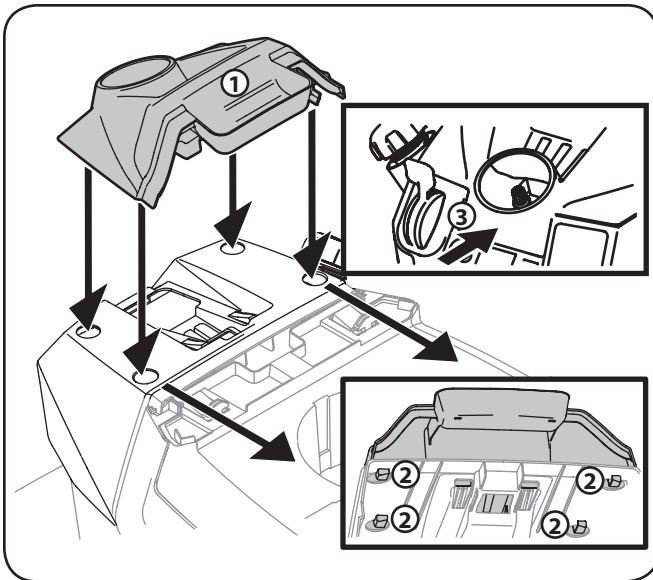

Figure 3-7
To install the dash cap (1), line up the tabs (2) on the dash cap (1) with the holes in the upper dash as shown in Figure 3-7. **Carefully** slide the tabs (2) into the holes in the upper dash and push forward on the dash cap (1) to lock into place.